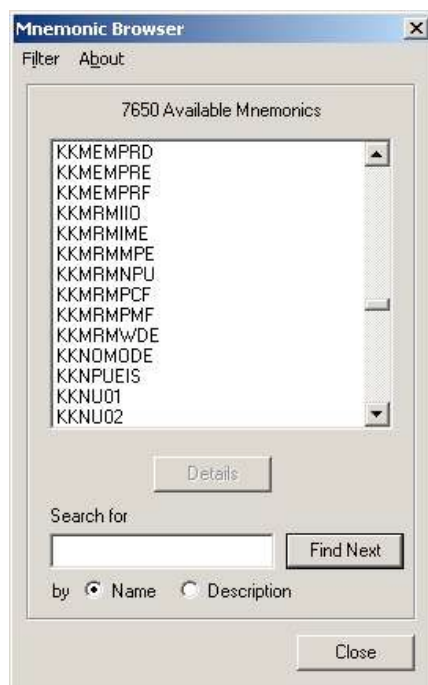

Figure 101: Mnemonic Browser List Screen
- Select a mnemonic from the list of available mnemonics (see Figure 101).